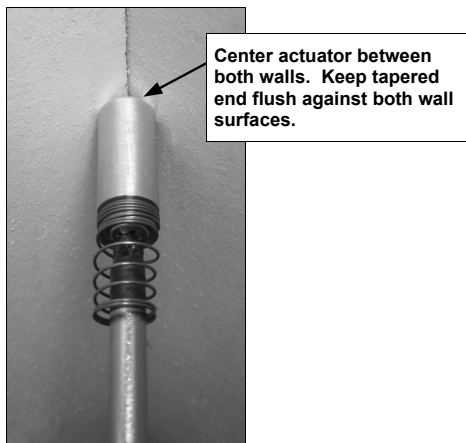

Fig. 8
3. Screw the rear tamper actuator into corner at Sleeve hole location previously marked in step 1 (Fig. 8). Be sure actuator is centered between both walls. The tapered end of the actuator must be flush against both wall surfaces before securing with the screw.